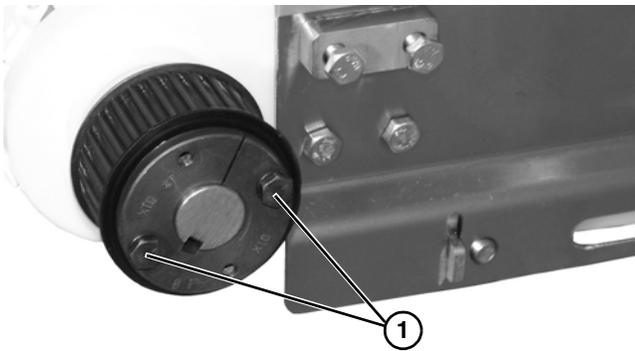

Figure 10
9. Tighten driven pulley taper-lock screws (**Figure 10, item 1**).